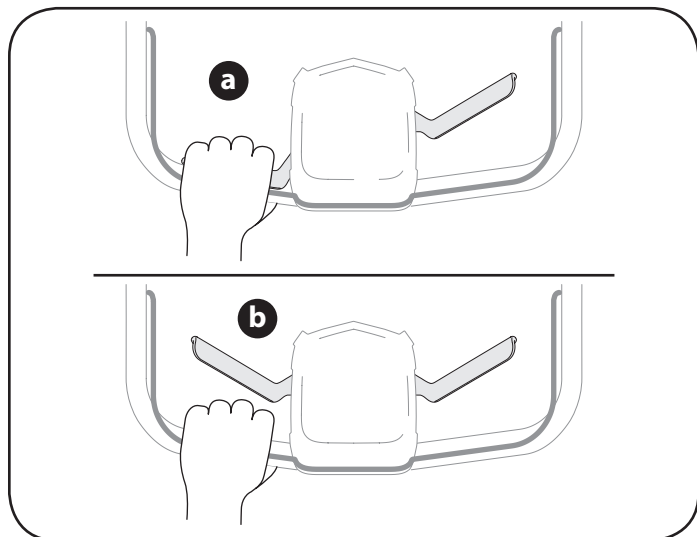

Figure 16
3. Using Mower as Front Wheel Drive Only. See Figure 16: